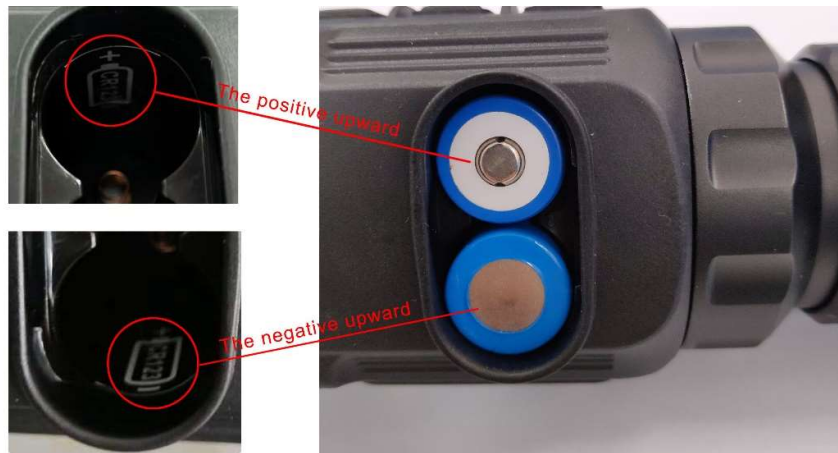

Figure 7-1 Schematic diagram of battery installation
- Unscrew the **battery compartment cover (4)** according to the schematic diagram on the battery compartment cover
- When installing the battery, please place the battery according to the battery polarity indicator icon in the battery compartment, as shown in figure 7-1.